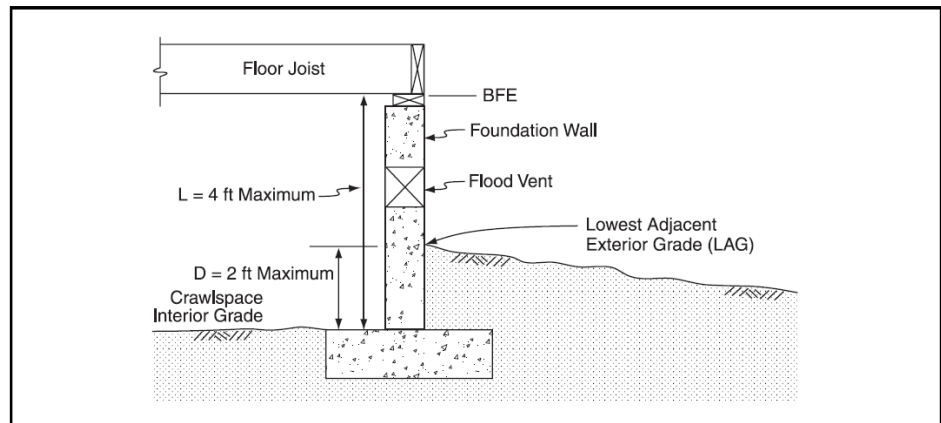

Figure 3 Requirements regarding below-grade crawlspace construction.
- The interior grade of a crawlspace below the BFE must not be more than 2 feet below the lowest adjacent exterior grade (LAG), shown as D in Figure 3.
- The height of the below-grade crawlspace, measured from the interior grade of the crawlspace to the top of the crawlspace foundation wall must not exceed 4 feet (shown as L in Figure 3) at any point. The height limitation is the maximum allowable unsupported wall height according to the engineering analyses and building code requirements for flood hazard areas (see the section Guidance for Pre-Engineered Crawlspaces, on page 7 of this bulletin). This limitation will also prevent these crawlspaces from being converted into habitable spaces.